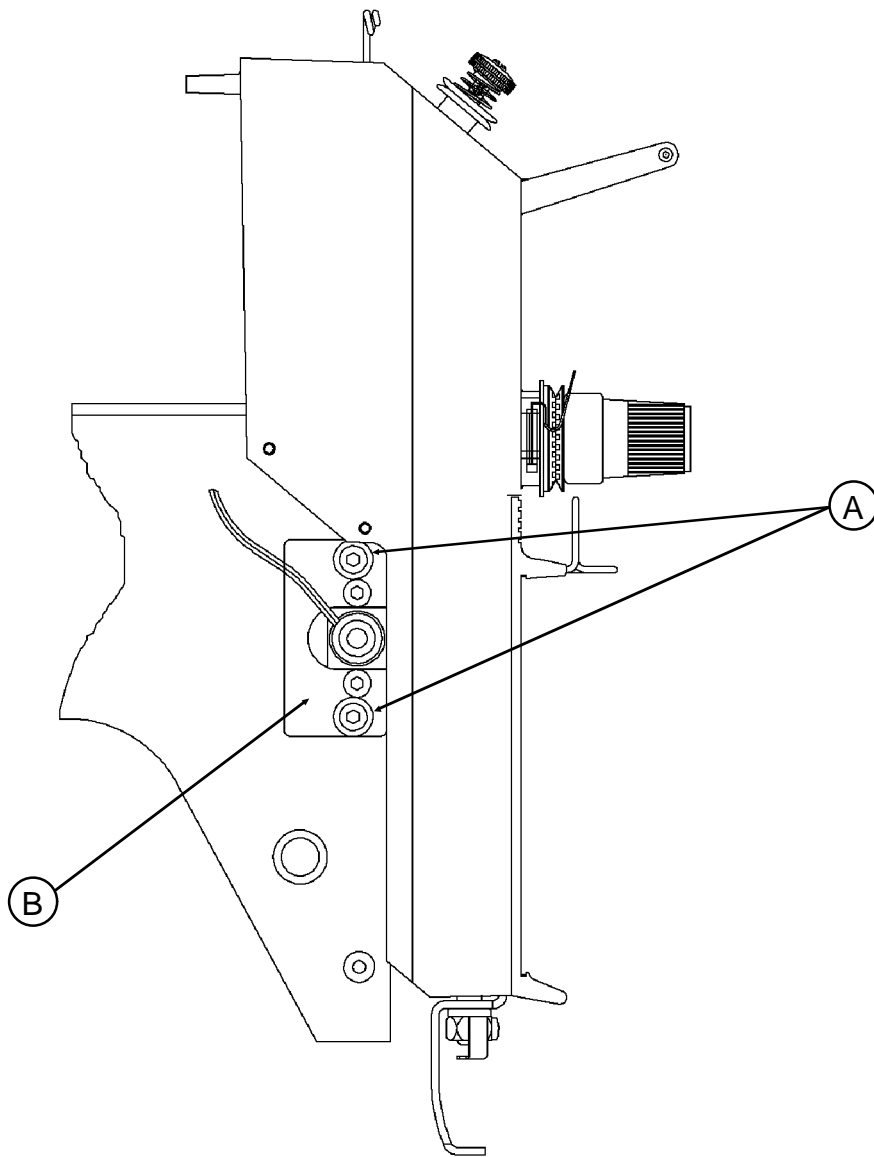

Figure 4
5. Remove the two Retaining Screws (Figure 4-A) holding the Jump Stitch Solenoid Bracket (Figure 4-B) in the head, and pull the Bracket away from the head.